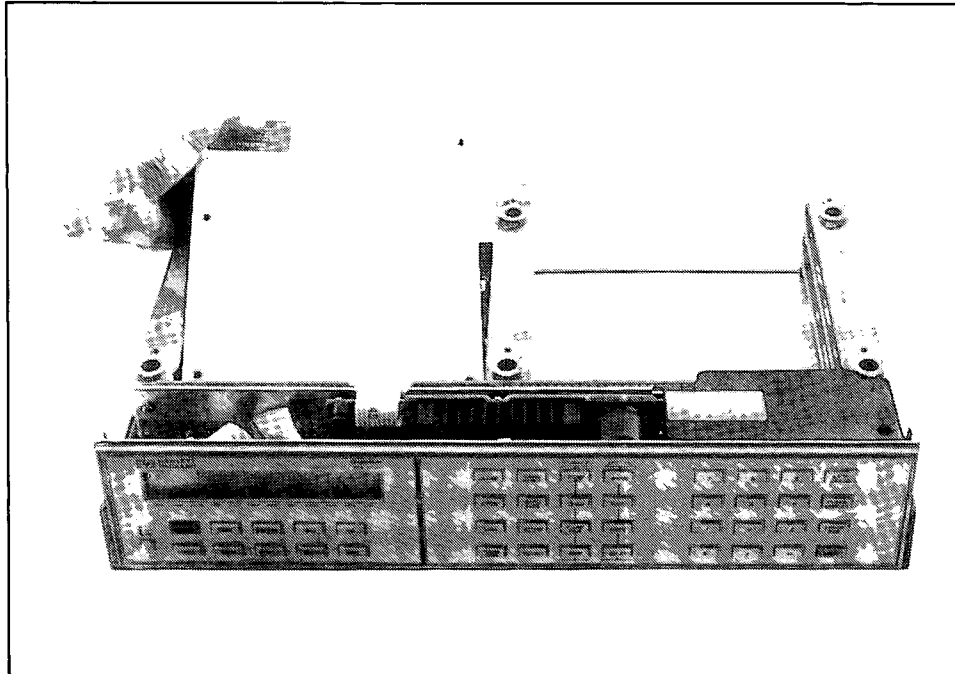

Figure 5-2 Shield Removal
To access the controller printed circuit board, remove the four screws in the shield over the board. The shield will lift up and off. The controller printed circuit board is now accessible for troubleshooting or testing. Shield removal is shown in Figure 5-2.
3. Remove the four screws in the controller board shield and lift the shield up and out (see Figure 5-2).